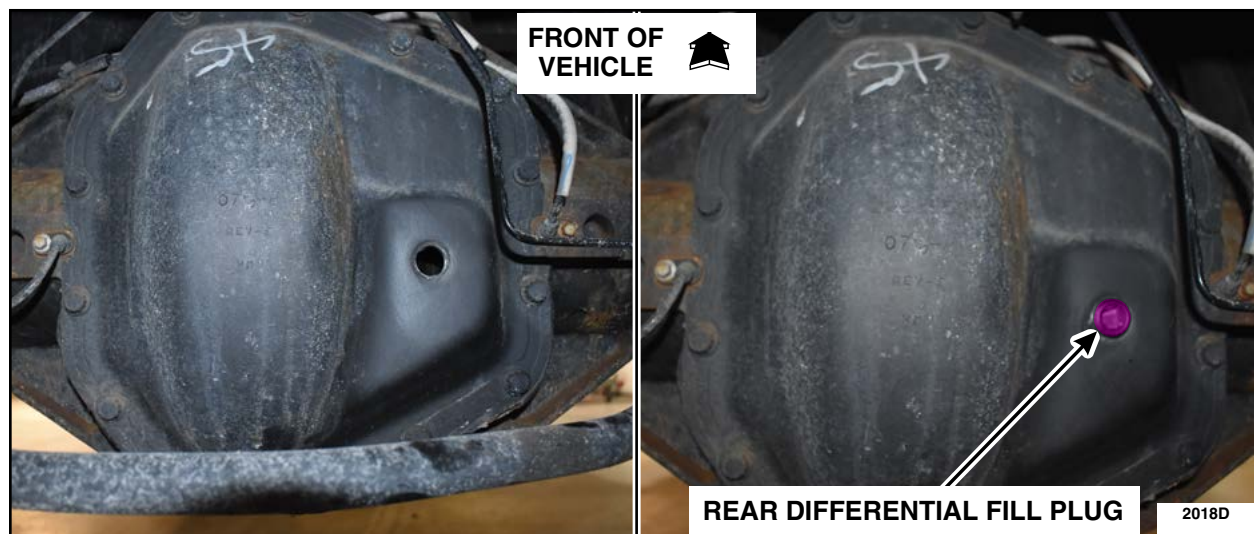

FIGURE 4
6. Install the rear differential fill plug. See Figure 4. This closes the recall.